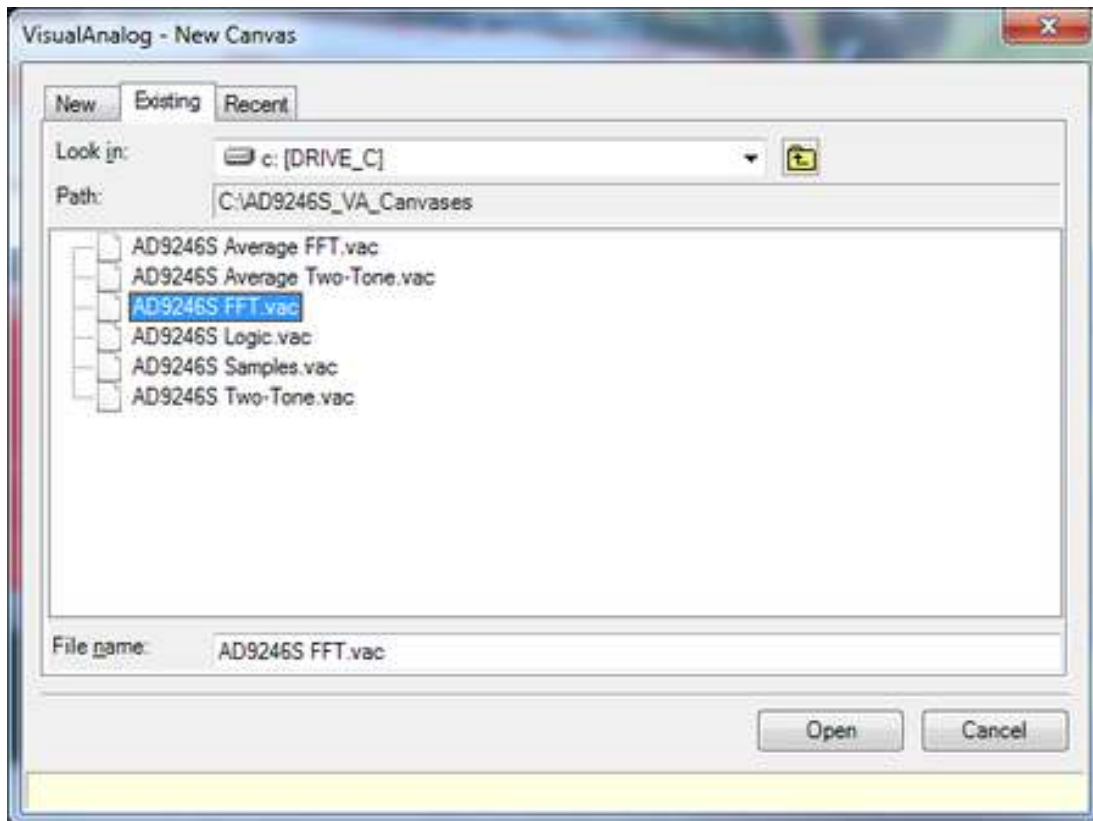

Figure 3a. VisualAnalog, Existing Canvas Window
1. Open VisualAnalog on the connected PC. The appropriate part type should be listed in the status bar of the **VisualAnalog – Existing Canvas** window. Navigate to the location where the AD9246S canvases have been store and select the template that corresponds to the type of testing to be performed (see Figure 3a). Click the “Open” button.